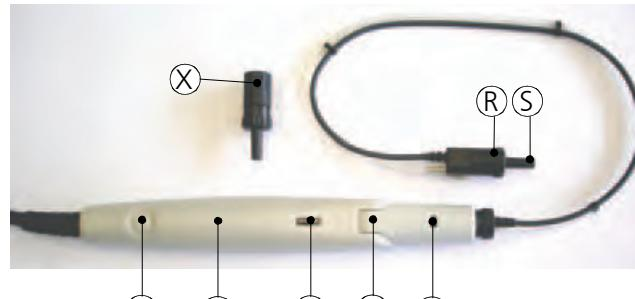
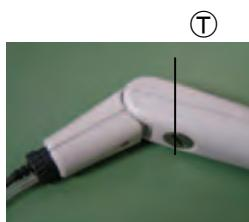

Figure 8 MI 34 probe with additional screening probe tip X
Figure 9
The probe of the MI 34 is shown in figure 8. The probe head is adjustable in three steps (0° , 60° und 80°). It is adjusted by releasing the fixation screw (Figure 9 ①) at the bottom of the probe a few turns, using a coin or a screw driver. Adjust the probe head ② by pulling it into the required position until it rests. To do this hold the probe handle ③ with the other hand. After it is set to the required position fasten the fixation screw ④ again.